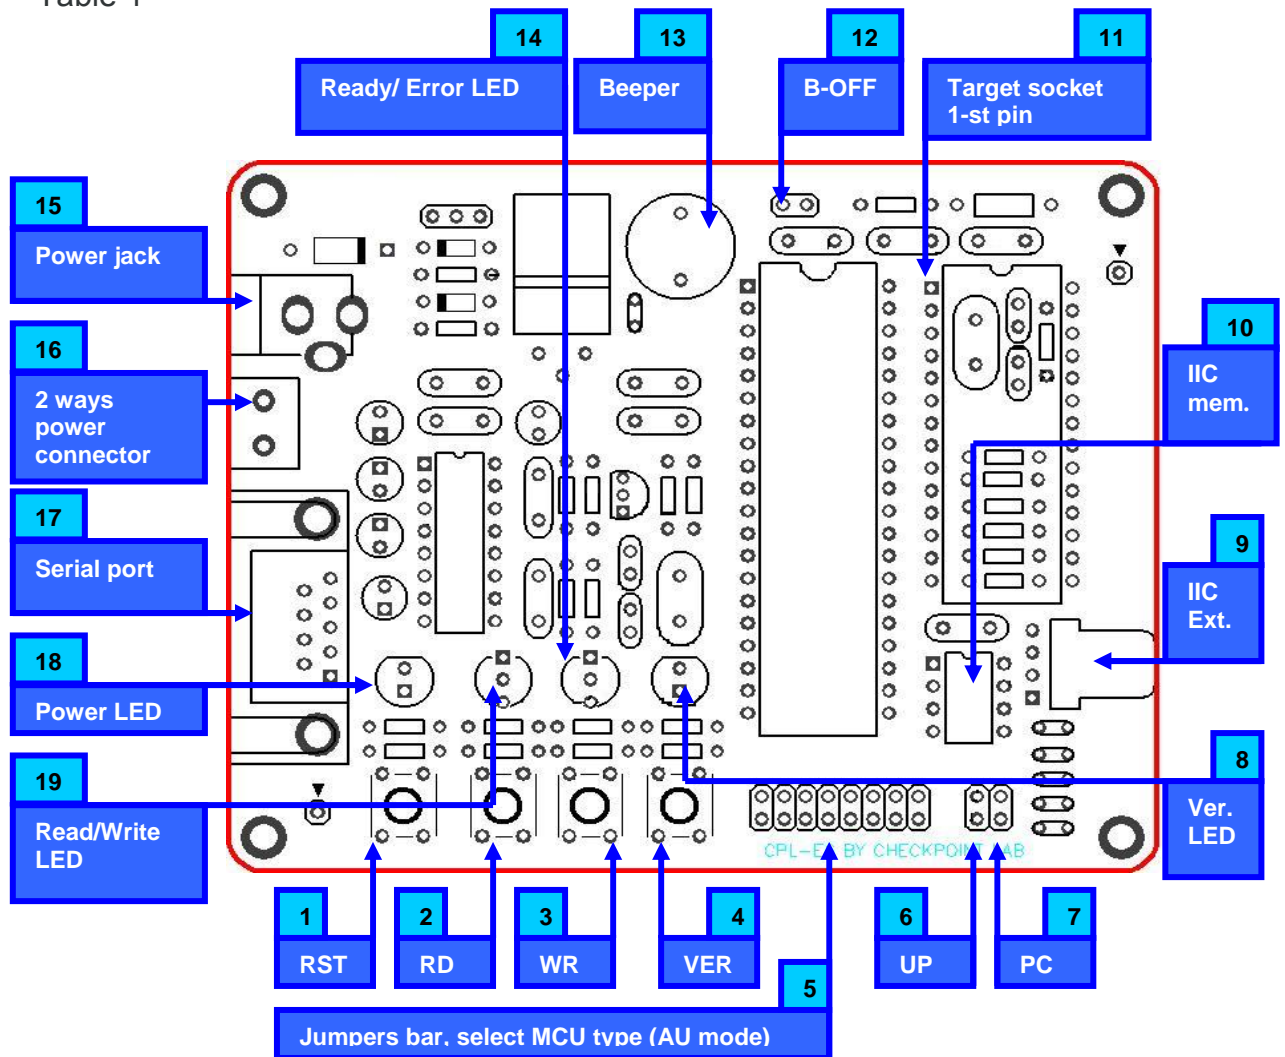

Figure 1
To understand MC68HC705E6 programmer components meaning see Figure 1 and Table 1
- Install target device into the target socket, notice the orientation of the device, first pin marked (Figure 1)